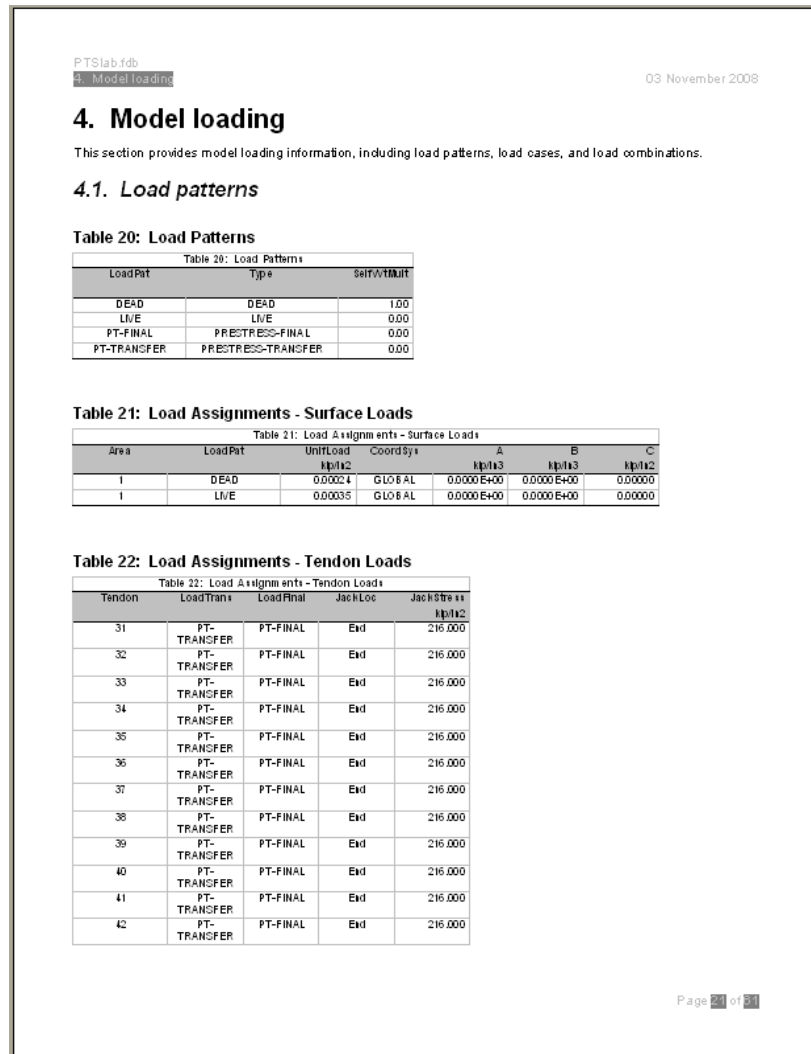

Figure 97 Typical Report information
- G. Scroll through the report to find tables that list geometry and properties, analysis results and design information, such as that shown in Figure 97.